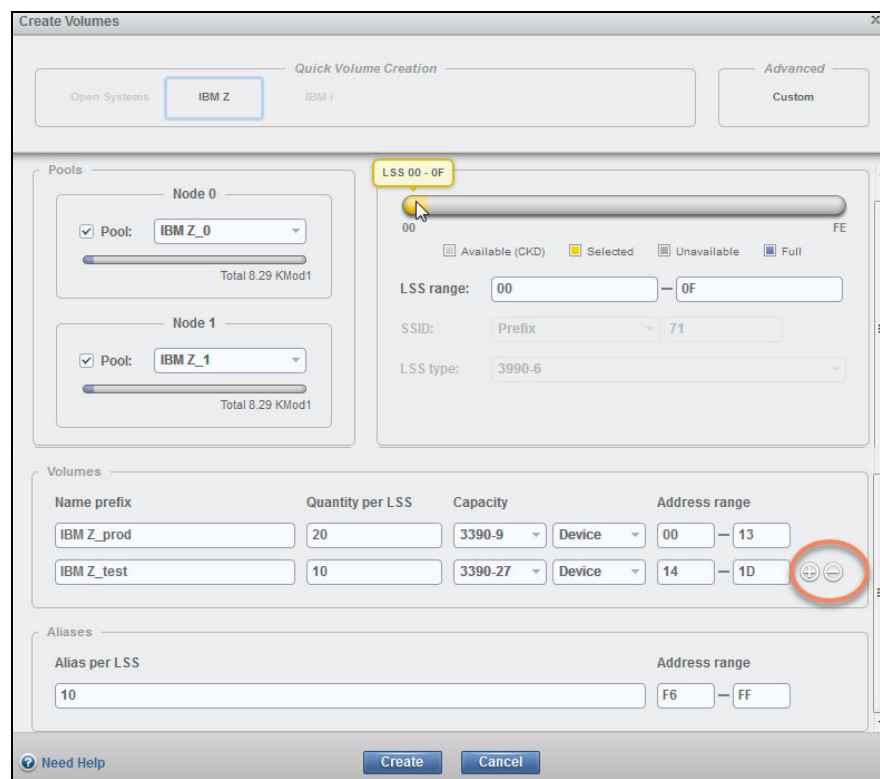
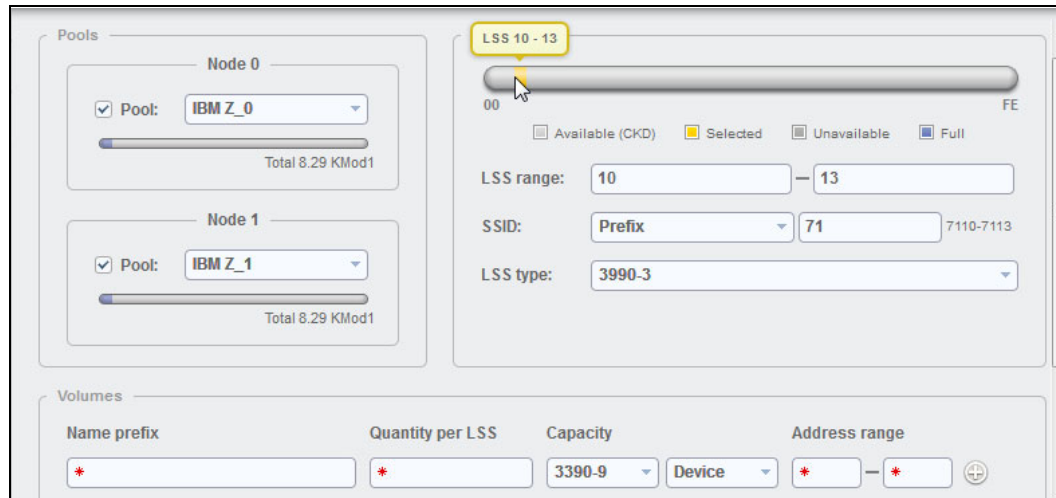

Figure 11-95 Create multiple groups of CKD volumes
Figure 11-96 Specifying a new Range of LSS
2. Select the **Create Volumes** tab. The Create Volumes window opens, as shown in Figure 11-95.
- Determine the LSS range for the volumes to create. In Figure 11-95 on page 342, the already created LSS range of 00-0F is selected. With the release 8.3 of the DS8880 microcode, you can create a new LSS range (10-13) as shown in Figure 11-96.
In the volume creation configuration example that is shown in Figure 11-95 on page 342, two groups of 20 and 10 volumes each are in the LSS ID range of 00 - 0F. Enter a prefix name and a capacity for each group. The capacity can be specified in three ways:
7. Enter the number of **Aliases** per LSS in the same window. See the example in Figure 11-95 on page 342.